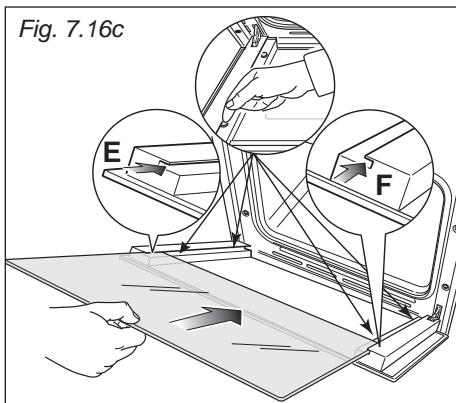
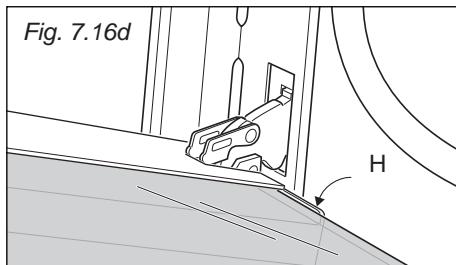

Fig. 7.16c
Fig. 7.16d
- Insert the inner pane in the left "E" and right "F" side guides (fig. 7.16c) and gently let it slide up to the retainers "H" (fig. 7.16d).